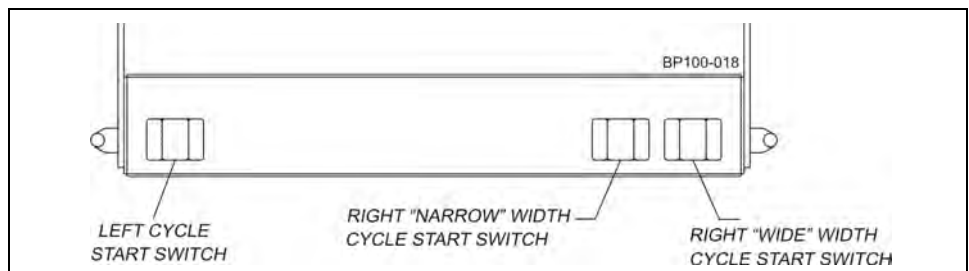

Figure 6 - Cycle Start Switches for Dual Width Control Operation
By adding a third cycle start switch as shown in Figure 6, the dual width control option allows operator to grade bacon width during processing for two different sizes.
3. Simultaneously place hands on right and left hand start touch pads (PX1 & PX2 or PX3) (Figure 6) and hold will energize the following: